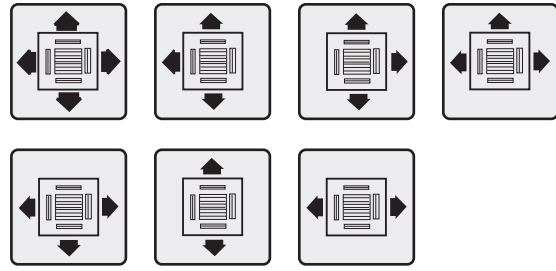
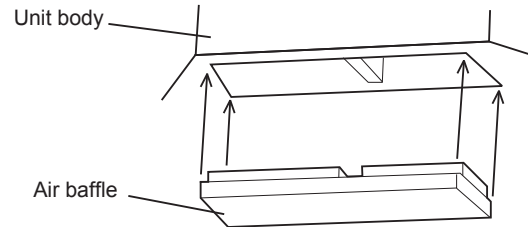

Figure 2.3
Figure 2.4
5. Based on the shape of the room, determine the airflow directions for the installation site. See Figure 2.3 for the schematic on the direction of airflow. If part of the air vent must be blocked, you may insert an air baffle at the vent of the unit body. See Figure 2.4.